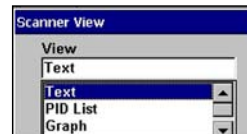

Figure 5-26 Sample Scanner View menu
2. Press **Y/✓** to display a drop-down list (Figure 5-26).